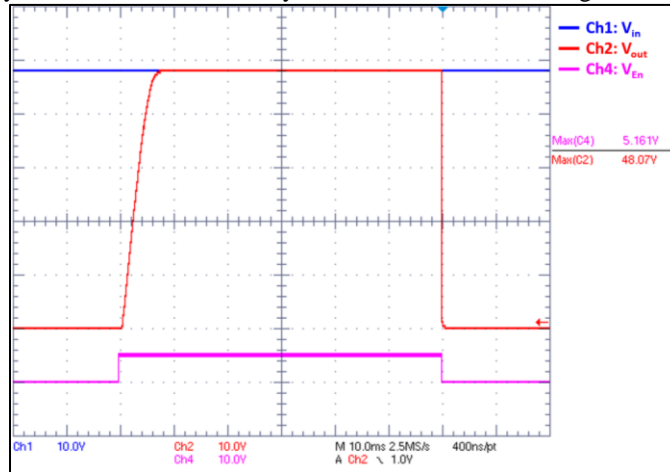

Figure 6. Turning on Output with Enable
- The 4 enable pins control each of the 4 outputs with the same number (e.g. EN1 controls OUT1). The enables are pulled up internally but can also be externally controlled, as shown in Figure 6 below.